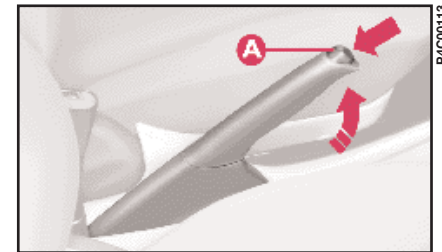

fig. 1
- 1) Slightly lift the handbrake and press release button **A** (**fig. 1**).
- 2) Keep the button pressed in and lower the lever. Instrument panel warning light (C) will go out.